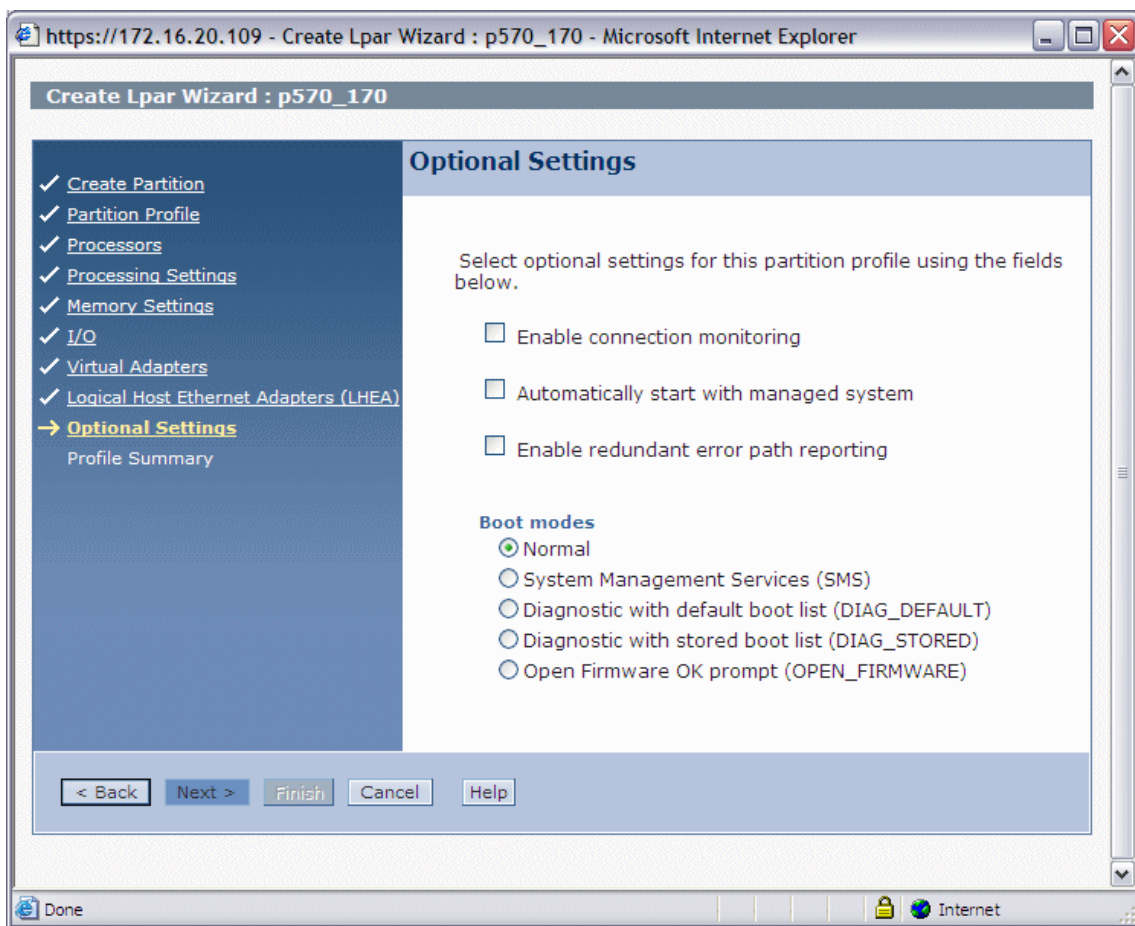

Figure 12-17 HMC Menu Optional Settings
15. In the Optional Settings dialog for the partition, click **Next** to continue (Figure 12-17). The partition will boot in normal mode by default. “Enable connection monitoring” will alert any drop in connection to the HMC. Automatic start with managed system means that the partition will start automatically when the system is powered on with the “Partition auto start” option (selected at power-on). “Enable redundant error path reporting” allows for call-home error messages to be sent through the private network in case of open network failure.